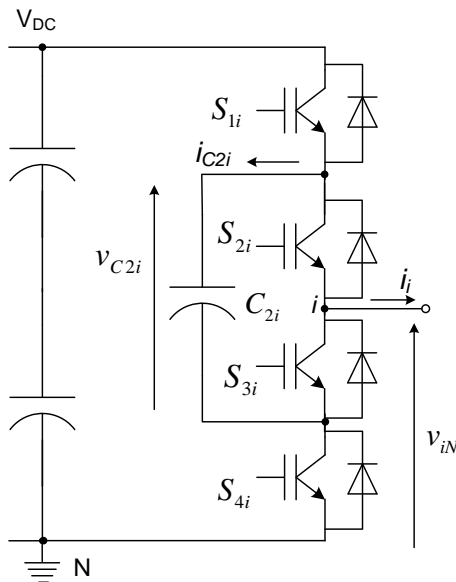

Figure 2.1 One leg of the three-level Flying Capacitor Multilevel Converter
2. a. One leg of the three-level Flying Capacitor Multilevel Converter is shown in figure 2.1. For the converter shown in figure 2.1 identify available switching states and the corresponding output voltage v_{iN} . (2)
- b. For the case in a) and with reference to suitable circuit diagrams explain which switching states can be affected by the direction of load current i_i . (6)
- c. For the case in a) and with reference to suitable gate drive signals explain how voltage v_{C2i} across capacitor C_{2i} can be kept constant by using Phase-Shifted Carrier Pulse Width Modulation PSCPWM. (4)
- d. For the case in a) and with reference to waveforms of voltage v_{C2i} and current i_{C2i} , calculate the voltage ripple across capacitor C_{2i} . The capacitance of C_{2i} is $1200\mu\text{F}$. The dc link voltage is 1kV . The converter is modulated by Phase-Shifted Carrier Pulse Width Modulation PSCPWM and the carrier frequency is 10kHz . For the current switching period, the load current i_i can be considered to be constant and equal to 20A . Within the current switching period, capacitor C_{2i} is charging during a time interval of $30\mu\text{s}$. (4)